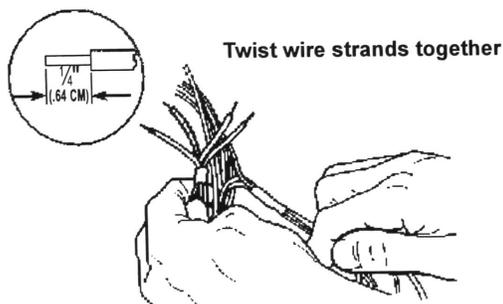

Figure 7
- Using wire strippers (set for 16-gauge wire), strip the four (4) cut harness wires on the harness side approximately $\frac{1}{4}$ " (.64 cm) each and twist the wire strands for each wire tightly together. See Figure 7 for details.